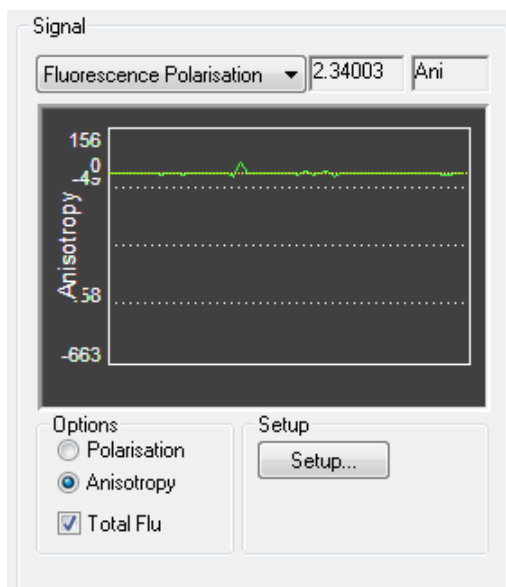

Figure 2-23: the Signal panel for fluorescence polarisation
4) Assuming that the SHU has been prepared as described in Section 2.4, on the **Signal** panel of the Pro-Data main window select **Fluorescence Polarisation** from the drop down list (Figure 2-23) and select the desired units (**Polarisation** or **Anisotropy**). The **Total Flu** box may also be ticked to record the total fluorescence signal as well as the polarisation.